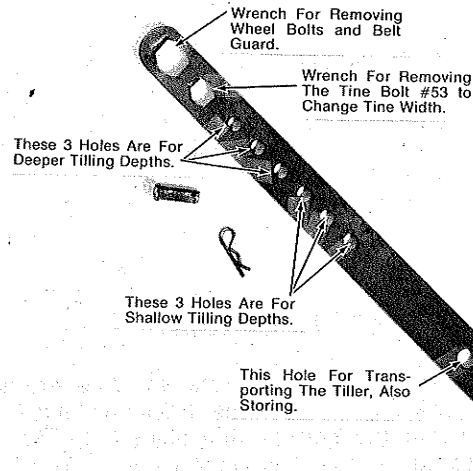

FIGURE 4
The depth control regulates the tilling depth and forward speed for the tiller. It has six (6) different depth positions plus 1 transport position, and two Hex Socket holes to use as wrenches. (See Fig. 4.)